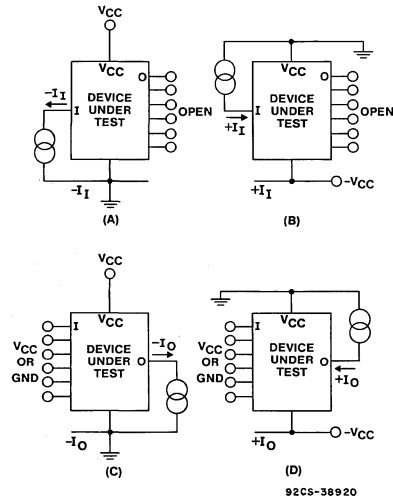

Fig. 16 - Test set-up for positive and negative trigger current
- Apply $\pm I_i$ or $\pm I_o$ (Fig. 16)